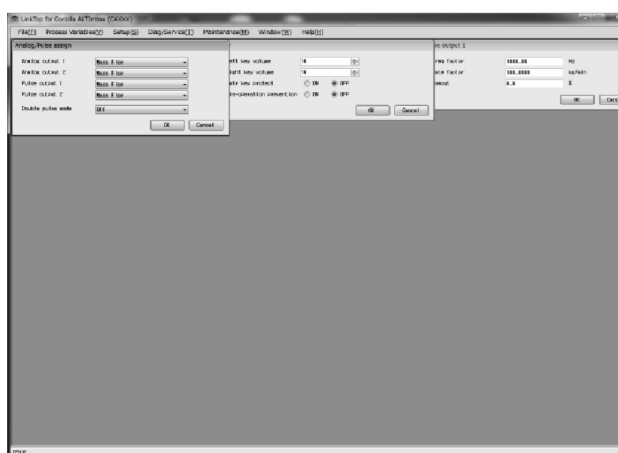

Fig.172
- ③ Select "Tile Vertical" to display these windows lined up horizontally, as shown in Fig. 172.